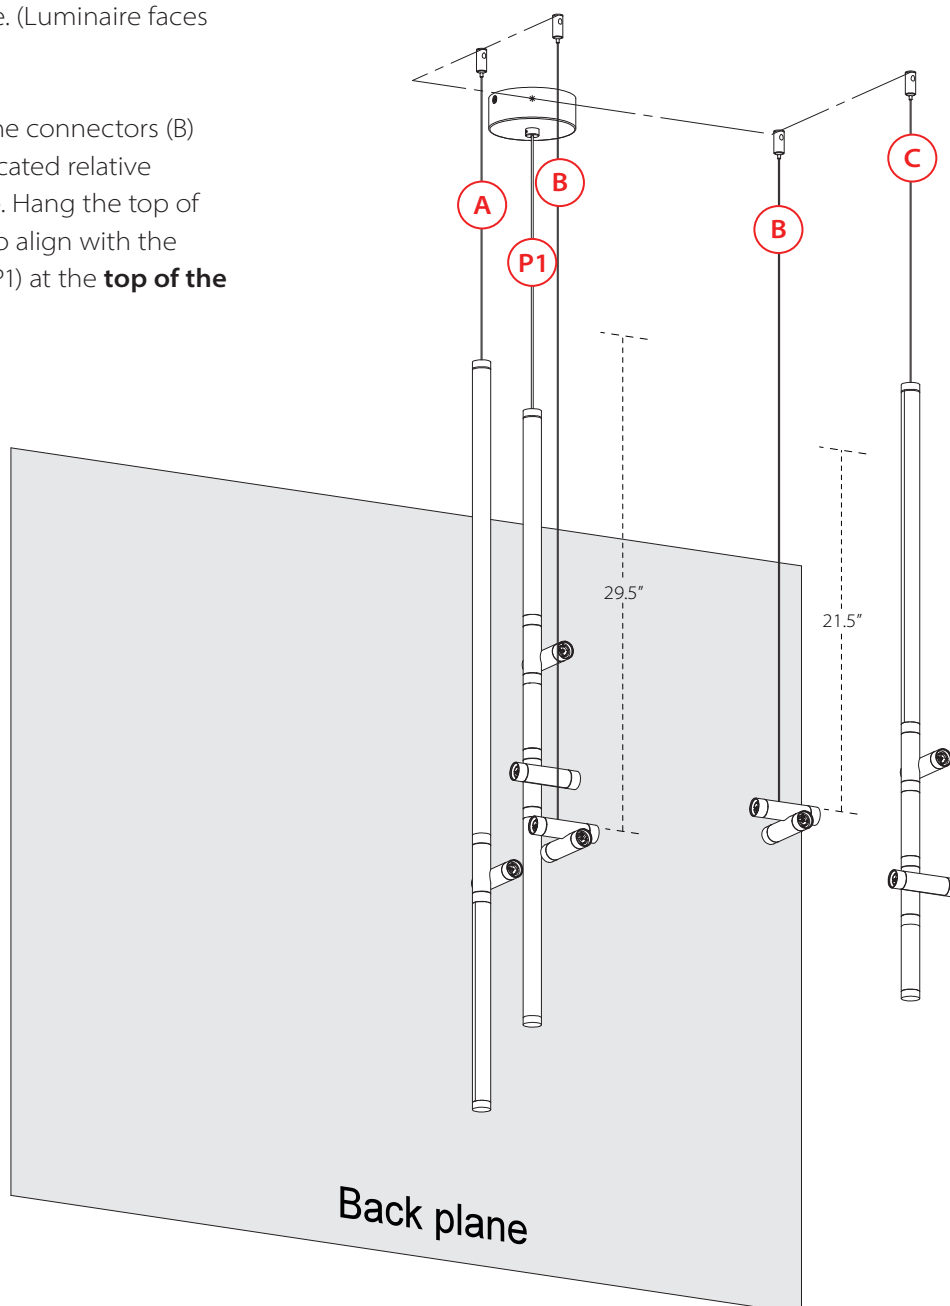

Fig. 4
Begin assembly by building subassemblies / collecting components shown below. Pay attention to the orientation of components as they are assembled with each other. Confirm their relative positions and direction by referencing Fig. 4 on page 10.
5. Twist together the outer braided conductor to form the negative wire of the fixture, then strip 5/8" off the end of the inner stranded conductor to form the positive wire of the fixture (Fig. 4).